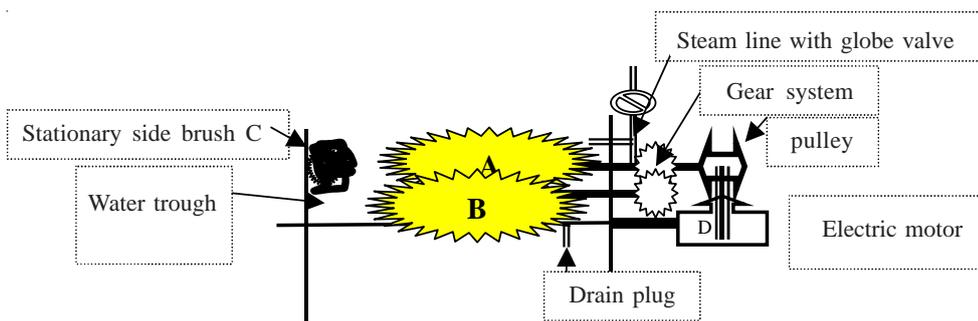

Fig 14.2 Schematic Diagram of Can Scrubber
**Design and Operator:** These are very simple type of can washing machines. As shown in the Fig. 14.2, one nylon fibre hard brush “A” of cylindrical shape revolves about its axis which is driven by small rating (usually 0.5 to 0.75 HP) electrical motor. Another brush “B” is driven with the connected gear. One stationary brush “C” to suit the shape of can is fitted at one sidewall of the scrubbing machine. The arrangement of these brushes are shown in the following schematic diagram (Fig. 14.2).